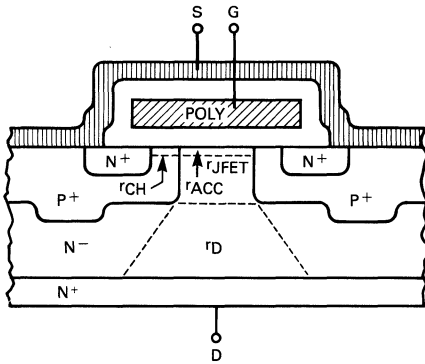

FIGURE 1-7 — TMOS DEVICE ON-RESISTANCE
When a gate voltage of appropriate polarity and magnitude is applied to the gate terminal, the polysilicon gate induces an inversion layer at the surface of the diffused channel region represented by r_{CH} in Figure 1-7 (page A-8). This inversion layer or channel connects the source to the lightly doped region of the drain and current begins to flow. For small values of applied drain-to-source voltage, V_{DS} , drain current increases linearly and can be represented by Equation (1).
Threshold voltage is the gate-to-source voltage required to achieve surface inversion of the diffused channel region, (r_{CH} in Figure 1-7 page A-8) and as a result, conduction in the channel.
On-resistance is defined as the total resistance encountered by the drain current as it flows from the drain terminal to the source terminal. Referring to Figure 1-7, $r_{DS(on)}$ is composed primarily of four resistive components associated with: